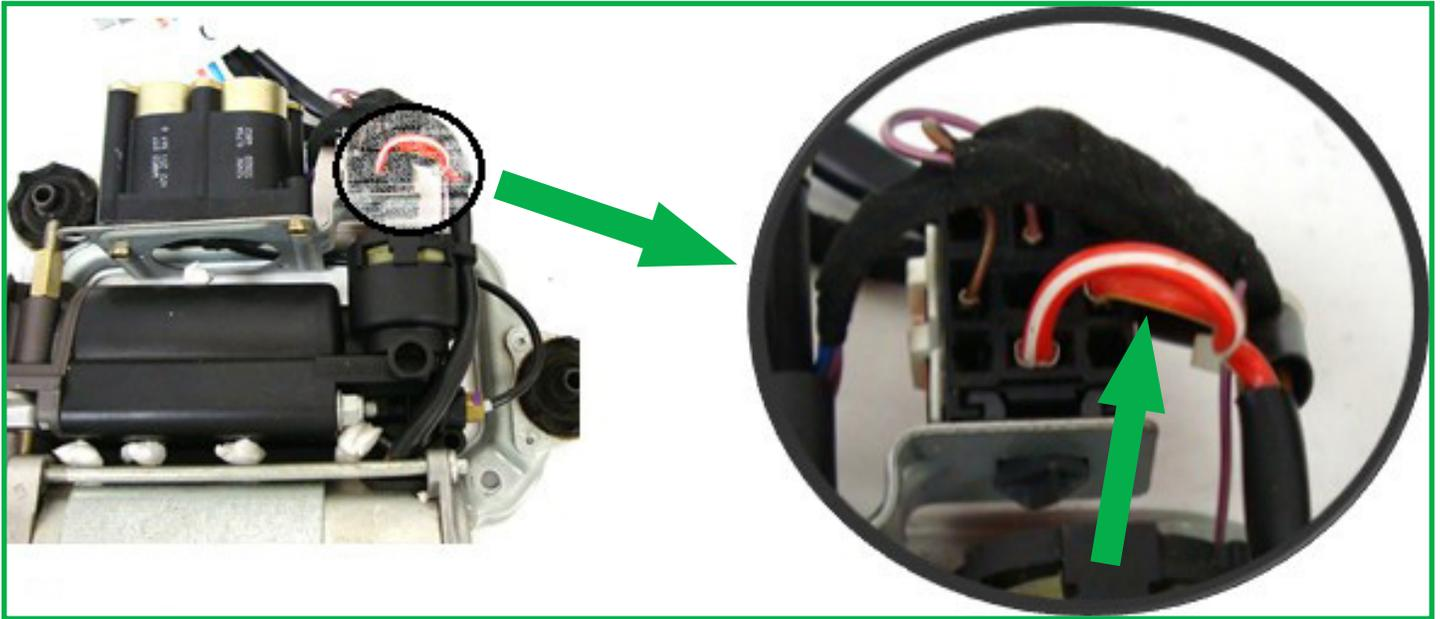

FIGURE 9
7. Remove the pin of the red/white wire from the compressor motor to the relay. (Figure 9)